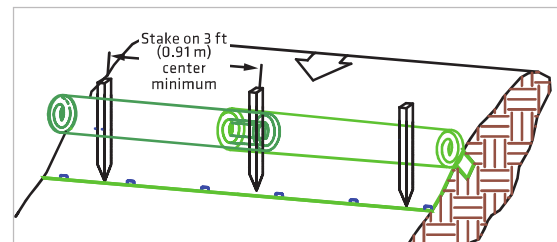

FIGURE 5
6. Secure the SediMax-FR structure to the slope surface by driving 18 to 24 in. (45-60 cm) minimum stakes through the center of the roll every 3 ft (0.9 m) on center. If two SediMax-FR structures are seamed together ensure a stake is driven through the seam. The final structure's diameter will dictate stake length. Leave a sufficient amount of stake exposed above the SediMax-FR to ensure the structure is not compressed. Both longitudinal ends should be angled upslope (Figure 5).